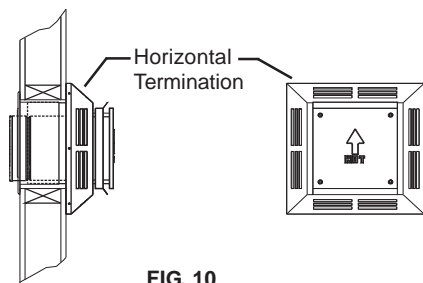

FIG. 10
6) Install the Horizontal Termination to the exterior wall using 4 all purpose screws through the holes located at each corner of the termination. Make sure the arrow (embossed on the front of the termination) is pointing up (see Fig. 10 ). If the house has vinyl siding, a Vinyl Siding Standoff (VS) must be installed prior to installing the Horizontal Termination. Refer to the Appliance Manufacturer to determine if one is recommended. Attach the Vinyl Siding Standoff to the exterior side of the wall (making sure it is level and centered with respect to the opening) with screws (provided) at each corner of the Standoff. Attach the Horizontal Termination to the standoff (see FIG. 11).